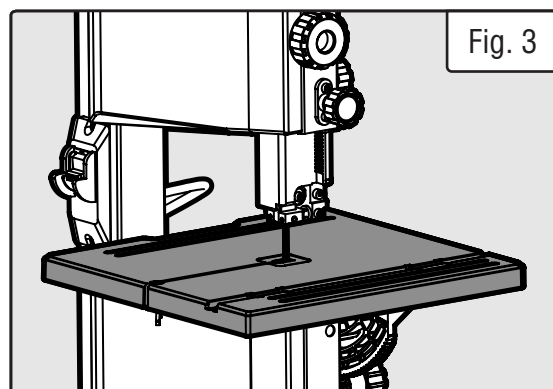

Fig. 3
2. Slide the saw table onto the band saw, making sure that the blade stays within the slot in the table (Fig. 3).